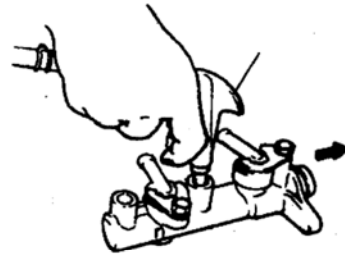

Fig.3.7-11
- 1) As is indicated in Fig.3.7-11, take the spring out, blow the first piston by using compressed air. Prevent the first piston from bouncing out during disassembly.